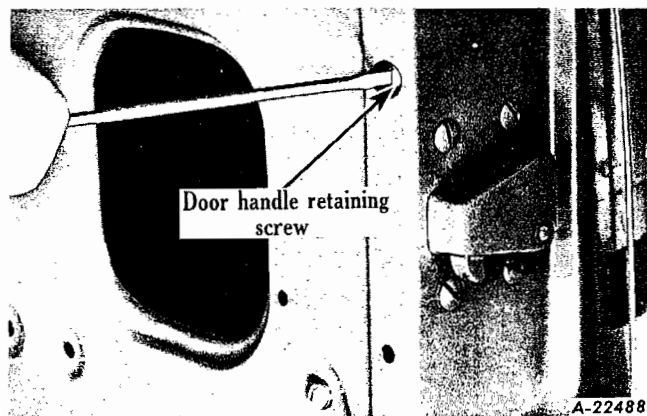

Fig. 38
6. Remove door handle shaft retaining screw and washer (Figs. 38 and 36).
2. Remove retaining screw and washer from door handle shaft (Figs. 38 and 36).